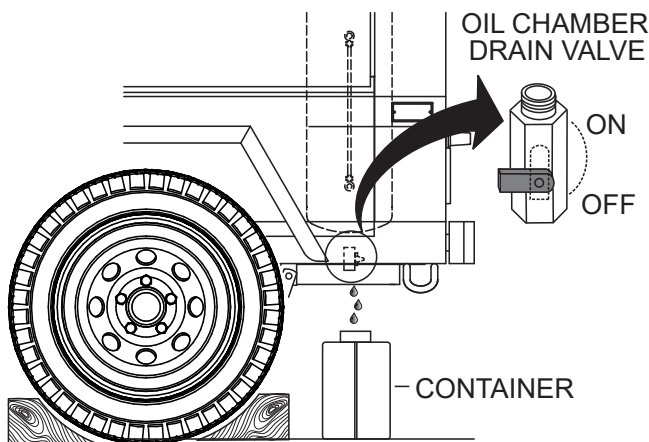

Figure 9. Oil Chamber Water Drainage
1. Place a suitable container underneath the **oil chamber drain valve** (Figure 9).